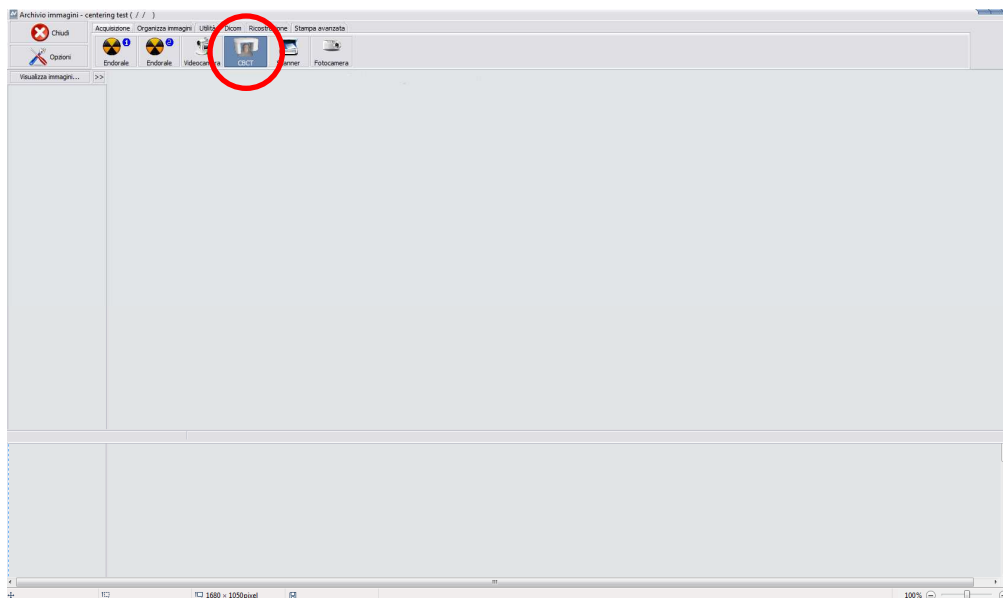

Figure 6-13
1. On Dental Studio program, open a test patient used to make the test images and select the "CBCT" icon (Figure 6-13) to open the virtual keyboard. Select a 3D Dentition exam, full volume and set the parameters to 60kV - 5mA.
1. On Dental Studio program, open a test patient used to make the test images and select the "CBCT" icon (Figure 6-13) to open the virtual keyboard. Select 3D Dentition exams.